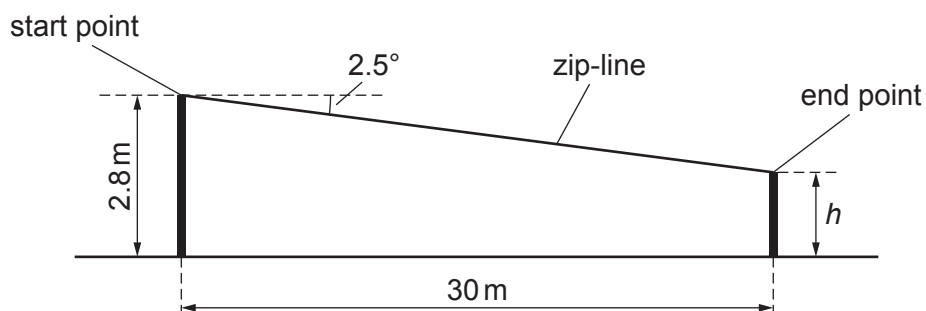

Fig. 2.1
- (c) Fig. 2.1 shows the basic design for a zip-line for a children's play park.